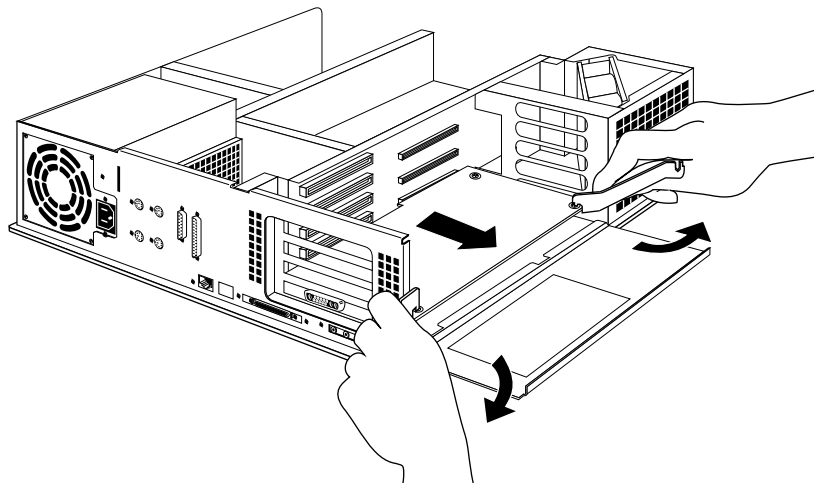

Figure 5-57 Removing the XL Graphics Board
- Hook the ends of the wrenches in the small holes on each side of the front of the board, as shown in Figure 5-57.